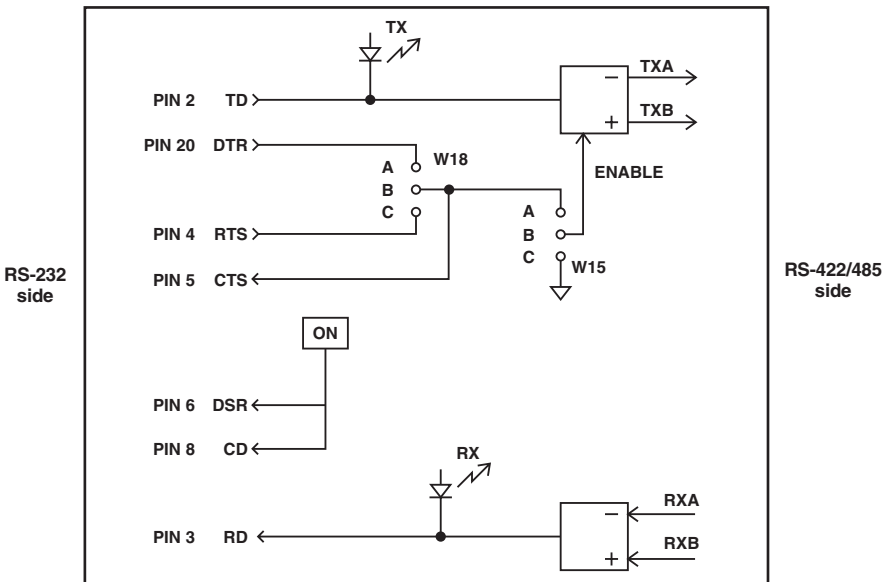

Fig. 4-1 Block Diagram of Converter Functions in DCE Mode.
When the RS-232 port is configured as DCE (see Fig. 4-1), data received on RS-232 Pin 2 (TD) will be transmitted out through TXA and TXB on the RS-422/485 port. For this transmission, RTS (or DTR, depending on the position of W18) must be asserted. In other words, before you can send any data